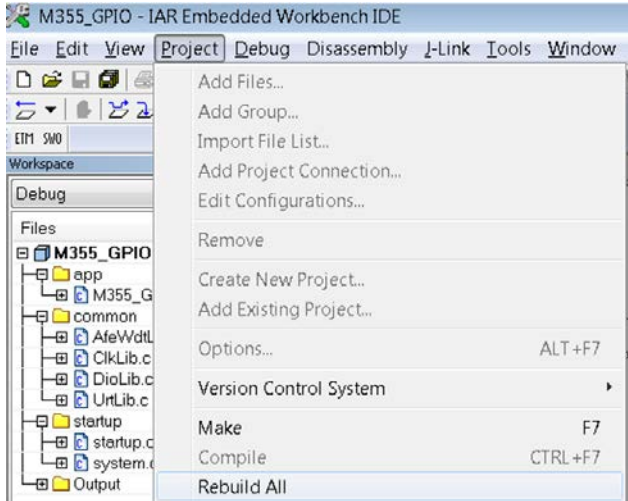

Figure 10. Project > Rebuild All
1. Go to **Project > Rebuild All** (see Figure 10).